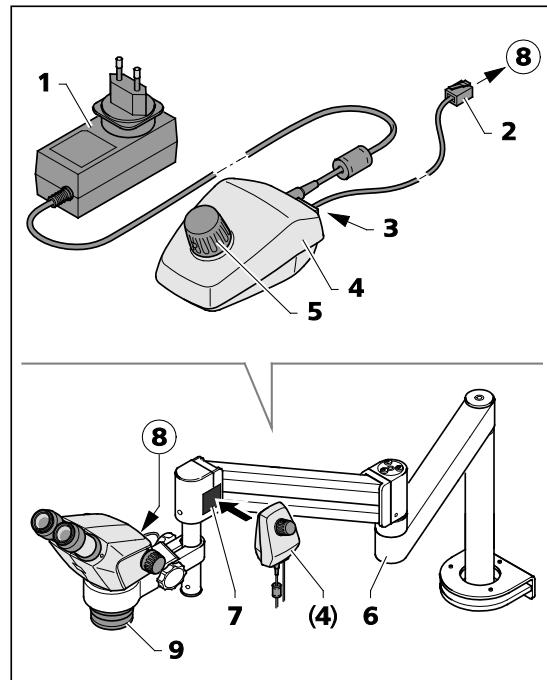

Fig. 24 Controller K LED
The controller K (Fig. 24/4) is used to activate the vertical illumination of the Stemi 305 body or the ring illuminator in case of applications with boom stands A or U or additional stands.
- Screw-fasten front lens system 0.5x/185 mm (Fig. 24/9) to the microscope body.
- When using the ring illuminator, adapt the latter to the front lens system (Fig. 24/9) using the adapter supplied with the device (ID 58 mm, OD 66 mm).
- Secure the adhesive side of the magnetic plate (Fig. 24/7) to the swivel arm stand.
- Plug the connection cable supplied with the device (1 m long) (Fig. 24/2) into the socket (Fig. 24/8) on the microscope body or the ring illuminator and into the socket (Fig. 24/3) on the back of the Controller K (Fig. 24/4).
- Place Controller K (Fig. 24/4) next to the magnetic plate (Fig. 24/7).
- Connect Controller K to the power supply using the power unit (Fig. 24/1).
- Align swivel arm stand (Fig. 24/6) to enable an ergonomic working position.
- Turn the knob (Fig. 24/5) on the Controller K to switch the vertical illuminator (or the ring illuminator) ON and adjust illumination intensity by turning the knob.